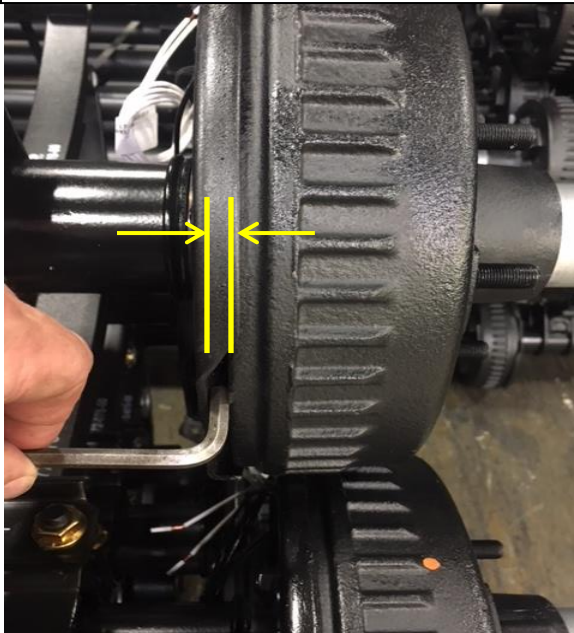
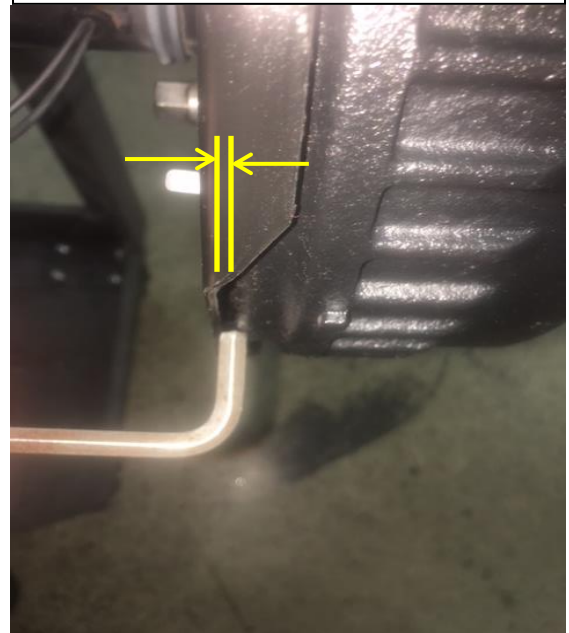

Figure 1
Figure 2
1. While underneath trailer, look at gap between hub-drum and backing plate in scalloped areas of backing plate. Using a 1/4" Allen wrench as a gage, attempt to insert gage between hub -drum and backing plate, in the scalloped area of the backing plate, as shown in figure 1.
Good Part. Gap should be minimum 1/4" between hub and backing plate. Gage should fit as shown in figure 1.
Bad Part. Gap is too small between hub and backing plate. Gage will not fit as shown in figure 2.
2. Determine if the gage fits (figure 1) or does not fit (figure 2) between backing plate and hub-drum.